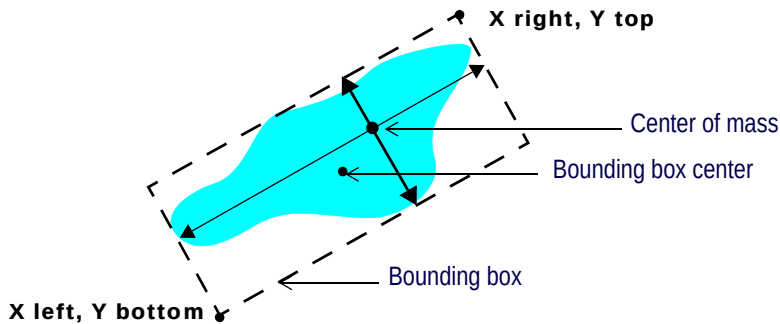

Figure 327 Bounding Box
- **Center X** and **Center Y** are the X and Y coordinates of bounding box center with respect to the principal axes. This does NOT correspond to the center of mass. See Figure 327.
The bounding box defines the smallest rectangle, aligned with the Tool coordinate system, that can enclose the blob, as shown in Figure 327.